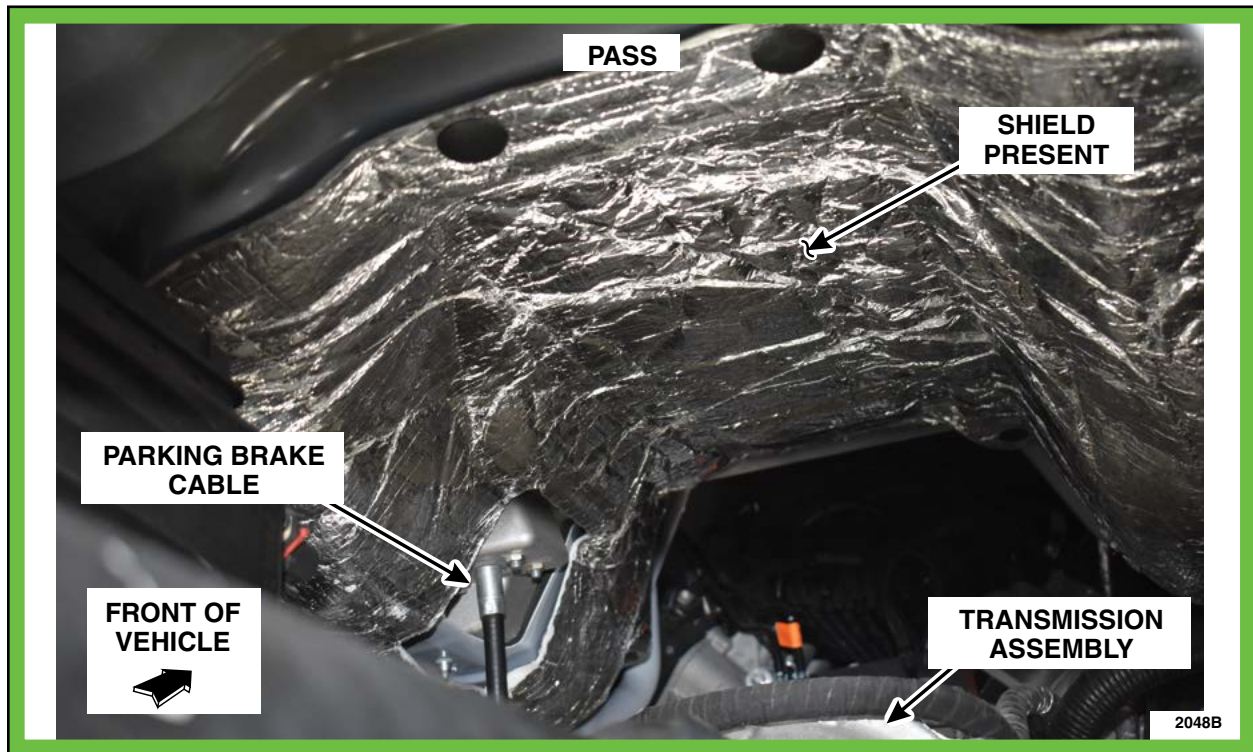

FIGURE 17
1. Inspect for the presence of an underbody tunnel heat shield over the transmission assembly. Is there a tunnel heat shield present? See Figures 17 and 18.